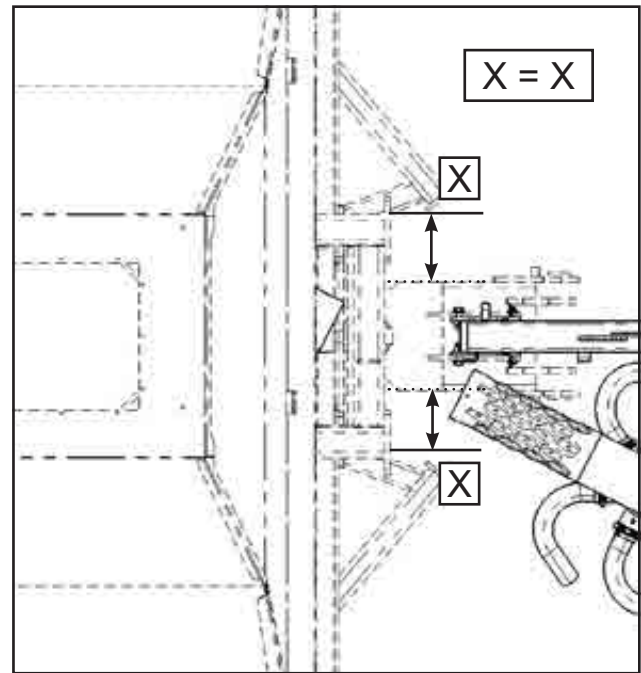

Figure 1.6 - Front Hitch - Centered
1. Verify that the front hitch is centered. Check that measurements labelled "X" in *Figure 1.6* are equal.